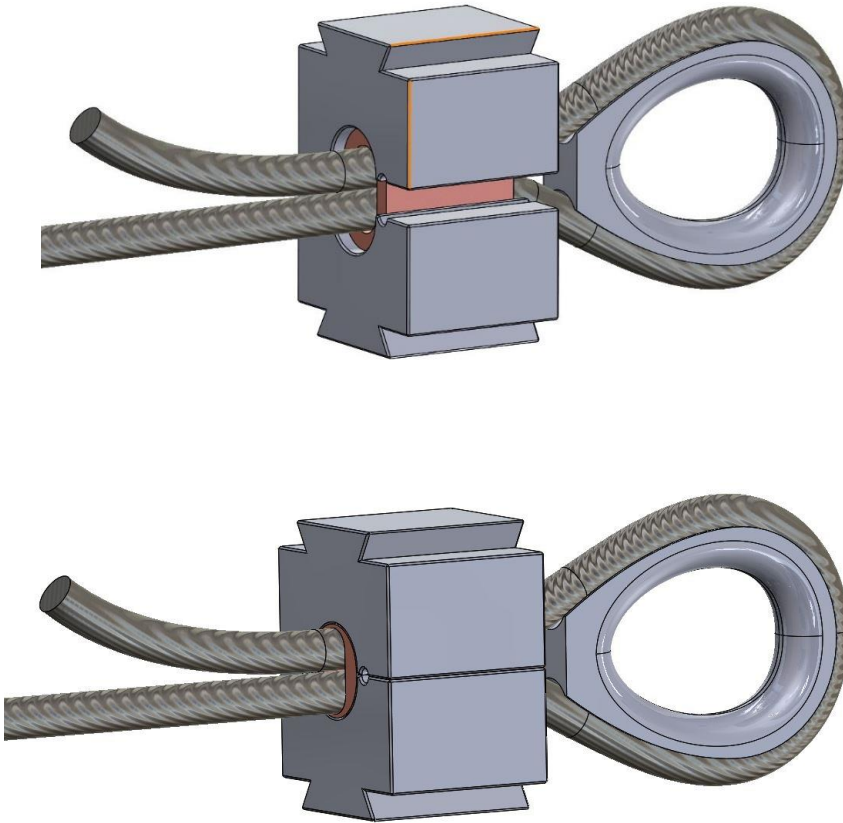

Fig. 6
2.9. After alignment and tightening of stainless-steel cables activate press and press until pressure reaches value specified by press manufacturer for pressing specific size of ferrules. During pressing, is necessary to keep eye on parallelism of cables, according to Fig.6.